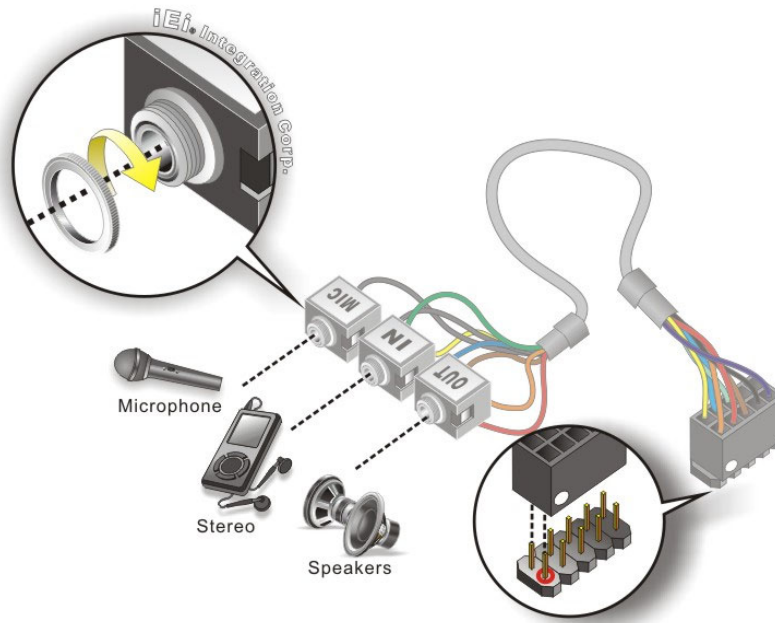

Figure 4-11: Audio Kit Cable Connection
Step 2: Align pin 1. Align pin 1 on the on-board connector with pin 1 on the audio kit connector. Pin 1 on the audio kit connector is indicated with a white dot. See **Figure 4-11**.